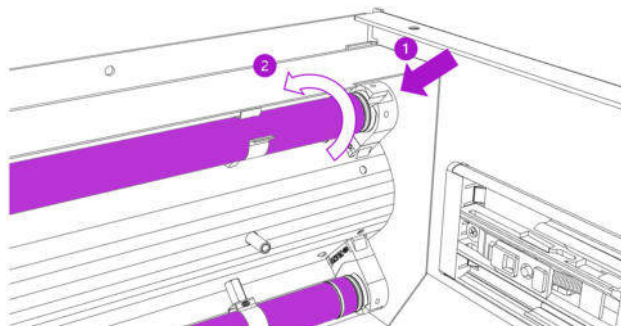

Fig. 18
1. Install new UV-C lamps as indicated in Fig. 18 (1). Turn UV-C lamps in direction of arrow (2) until you hear a clicking sound. **Notice: Li.LAC will only operate if both UV-C lamps are installed.**